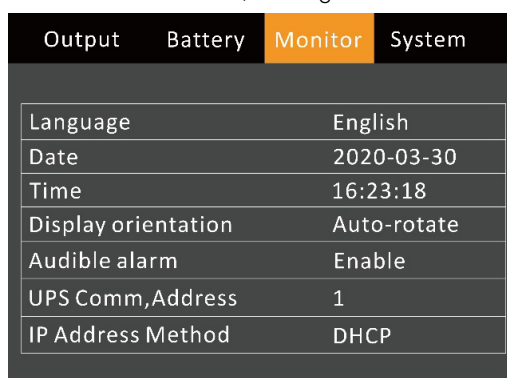

Figure 3-14 Monitor interface
2. Press the key to move the cursor to 'Monitor', see Figure 3-14.